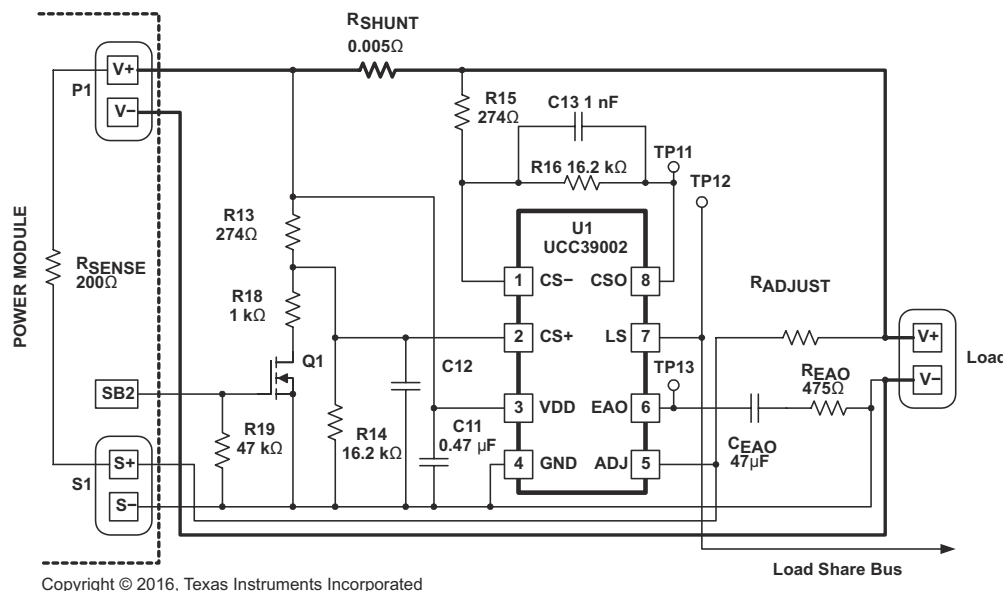

Figure 7-1. Typical High-Side Application for a Single Power Module
Figure 7-1 shows a typical high-side current-sense configuration for a single module which is repeated for each module to be paralleled. Direct connection of the VDD pin to the power module V_{OUT} rail ($V+$) is valid for V_{OUT} less than 13.5V.
In Figure 7-1, P1 represents the output-voltage connector terminals of the module and S1 represents the remote-sense connector terminals of the module. In this example, a signal on the SB2 terminal enables the disconnect feature of the device. The Load-Share Bus is the common bus between all of the paralleled load-share controllers. The VDD supply must be decoupled with a good-quality ceramic capacitor returned directly to GND.
Referring to Figure 7-1, the DC gain of the CSA is equal to R_{16}/R_{15} , and a high-frequency roll-off pole used for noise filtering is set by C_{13} . These component values are repeated at R_{14} , R_{13} , and C_{12} on the CS+ pin of the differential amplifier, as shown.
where (referring to Figure 7-1)
- A_{CSA} is the DC gain of the Current-Sense Amplifier. (R15, R16 refer to Figure 7-1.)